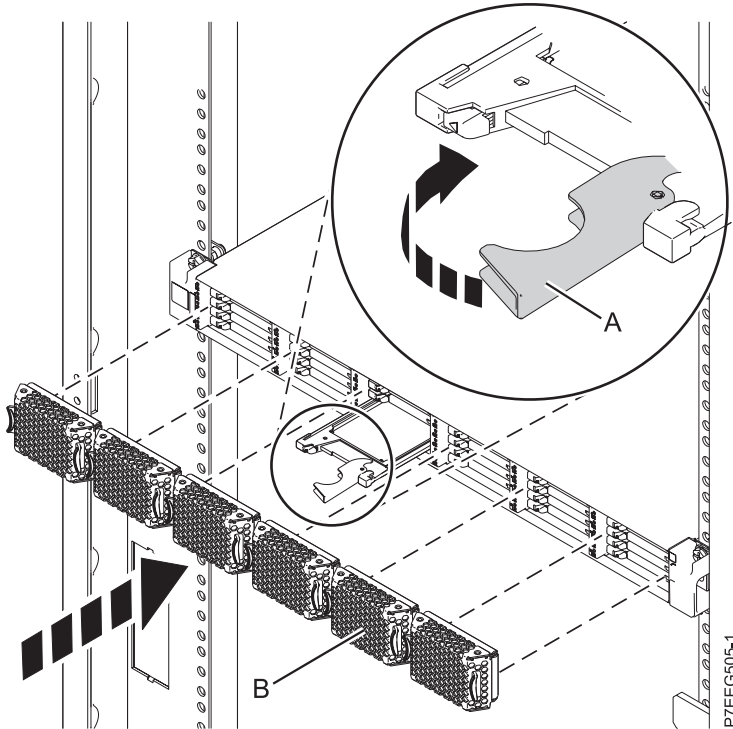

Figure 4. Installing a solid-state drive in the EDR1 PCIe storage enclosure
1. With the handle in the unlocked position, align the solid-state drive with the guide rails in the enclosure. See Figure 4 on page 10.